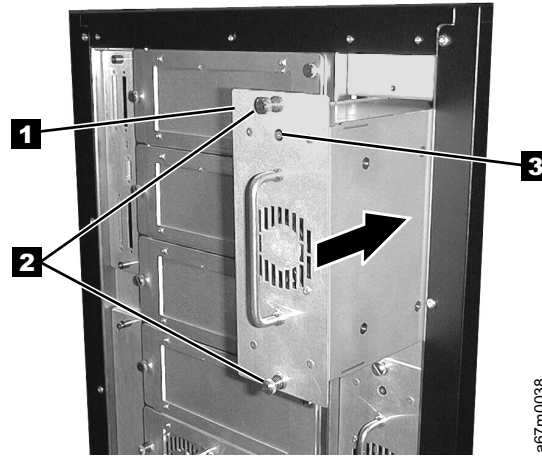

Figure 33. Installing a redundant dc power supply
2. Locate the slot where you want to install the redundant dc power supply. Loosen the two captive thumbscrews on the cover plate and remove the cover plate (see Figure 33 on page 53).
Note: Before inserting the dc power supply, be sure to orient the power supply so that the LED **3** is located as shown in Figure 33 on page 53.
3. Slide the power supply (**1** in Figure 33 on page 53) into position until it mates with the power distribution board and tighten the two captive thumbscrews **2**.